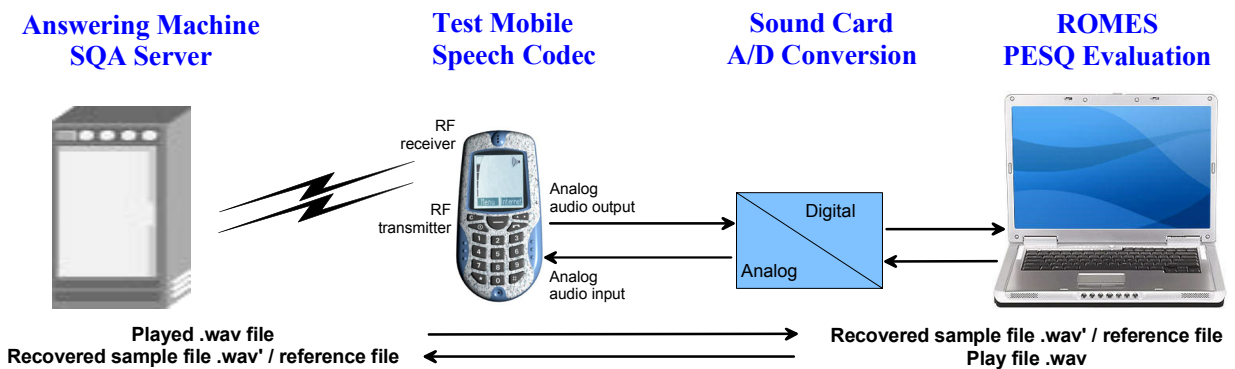

Fig. 6-27 Basic SQA Test Setup
1. Establish the basic test setup according to Fig. 6-27 on p. 6.62, ensuring that the answering machine/SQA server and the local PC contain copies of the same \*.wav file.